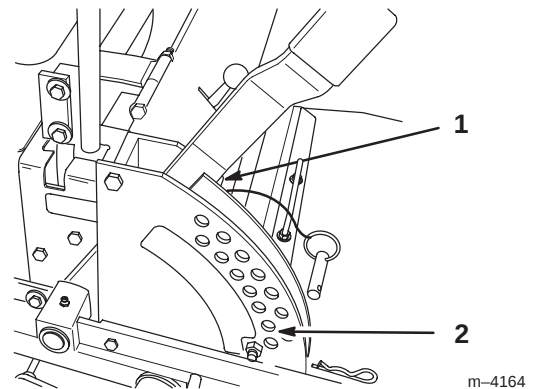

Figure 60
4. Raise the deck to the transport position and take all force off of the two large deck lift springs by loosening nut in front of each spring (Fig. 60).
5. Place two 1-1/2 in. (38 mm) thick blocks under rear left and right lower edge of mower. Place one 2-1/4 in. (57 mm) block under front center lower edge of mower. Lower mower to the 2 in. (51 mm) height-of-cut position (Fig. 60).
1. Raise deck lift lever to the transport position, (Fig. 60).